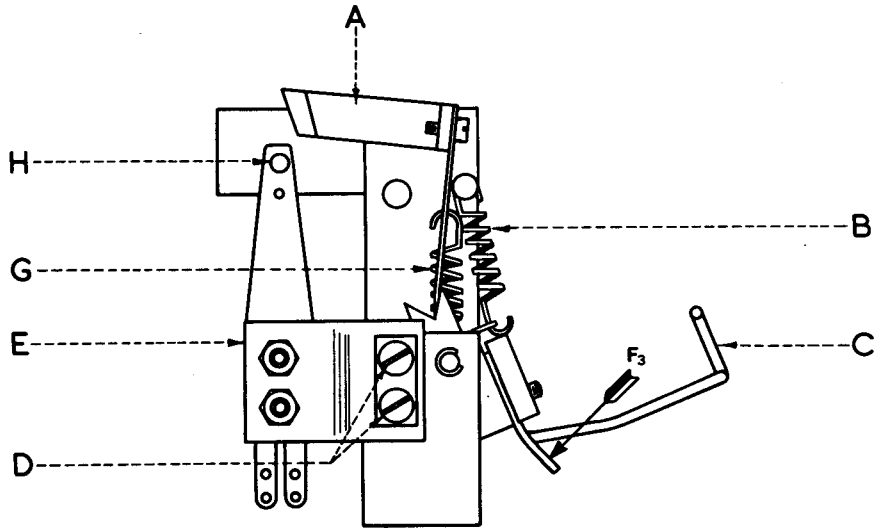

FIG. 10
17. Tight-Tape Arm Pressure (Fig. 10)